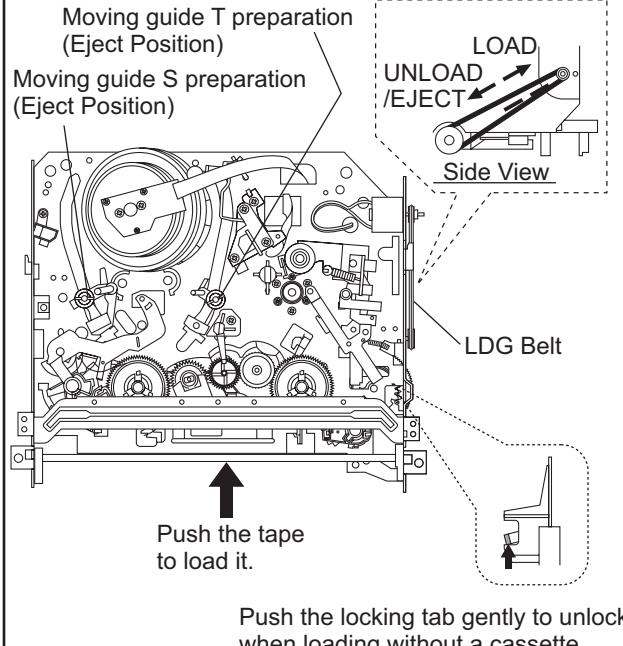

Fig.1
- Turn the LDG Belt in the appropriate direction shown in Fig. 1 until the Moving guide preparations come to the Eject Position. Stop turning when the preparations begin clicking or can not be moved further. However, the tape will be left wound around the cylinder.
(2) Method to place the Cassette Holder in the tapeloaded position without a cassette tape
- Turn the LDG Belt in the appropriate direction shown in Fig. 1. Release the locking tabs shown in Fig. 1 and continue turning the LDG Belt until the Cassette Holder comes to the tape-loaded position. Allow a minute or two to complete this task.